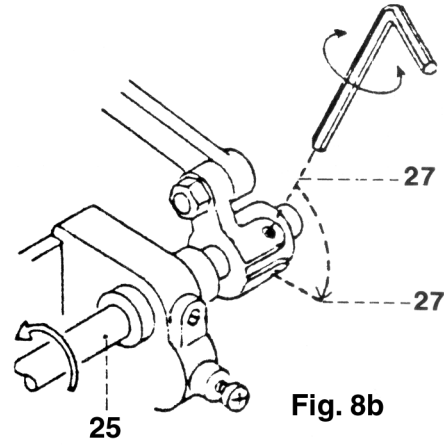

Fig. 8b
- Loosen screws 27 with a 2.5 mm Allen key (fig. 8b).
- Tighten one of the screws 27 (fig. 8b).